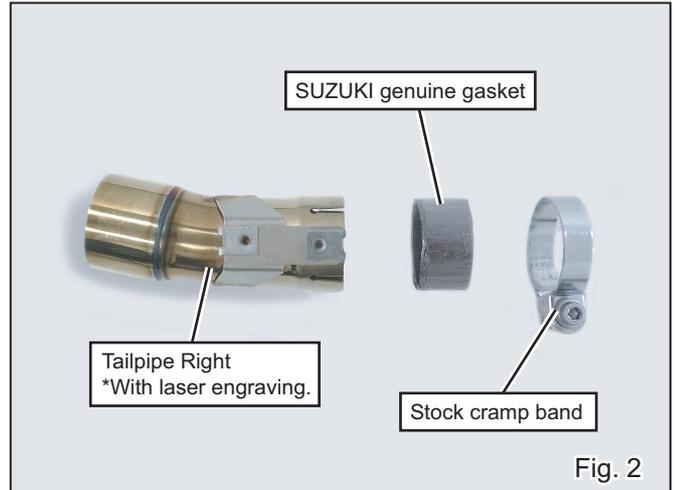

Fig. 2
- 4) Insert Suzuki genuine new gasket into the front of Tailpipe Right and put on stock clamp band removed at stage 3) (See Fig. 2).